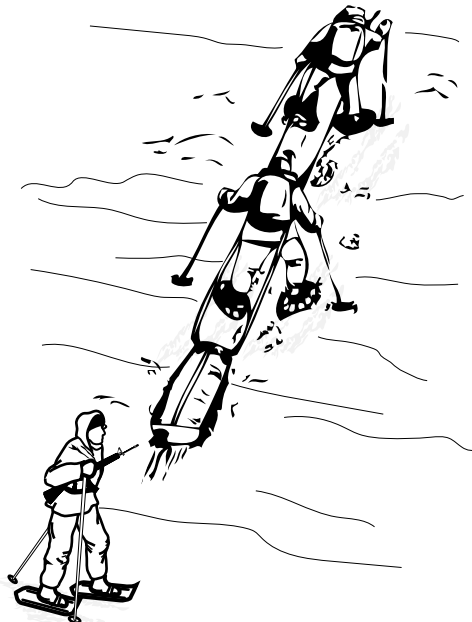

Figure 7-8. Ascending Steep Slopes.
- Ascending steep slopes may require two sled pullers with assistance from a third using ski poles, as shown in Figure 7-8.